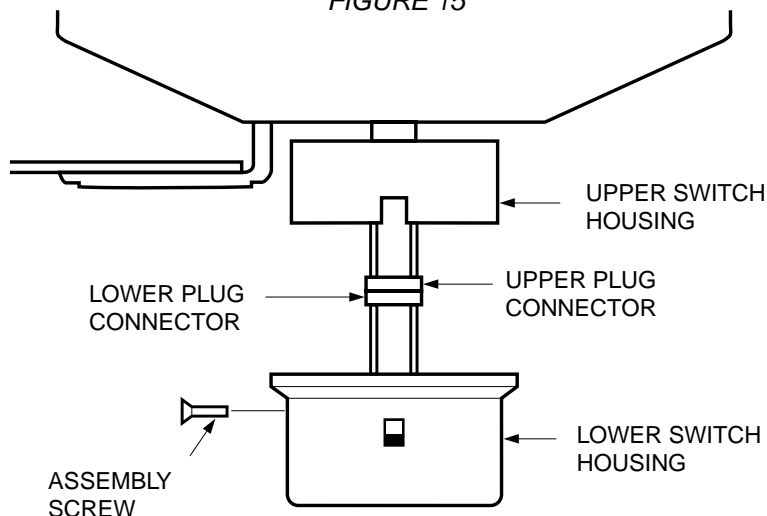

FIGURE 16
- A. Connect the upper plug connector from the motor to the lower plug connector in the lower switch housing assembly. See Figure 16.
- B. Place the lower switch housing assembly over the upper switch housing. Align the side screw holes in the upper and lower switch housings. Attach the lower switch housing to the upper switch housing with three #6-32 x 3/8" housing assembly screws. See Figure 16.